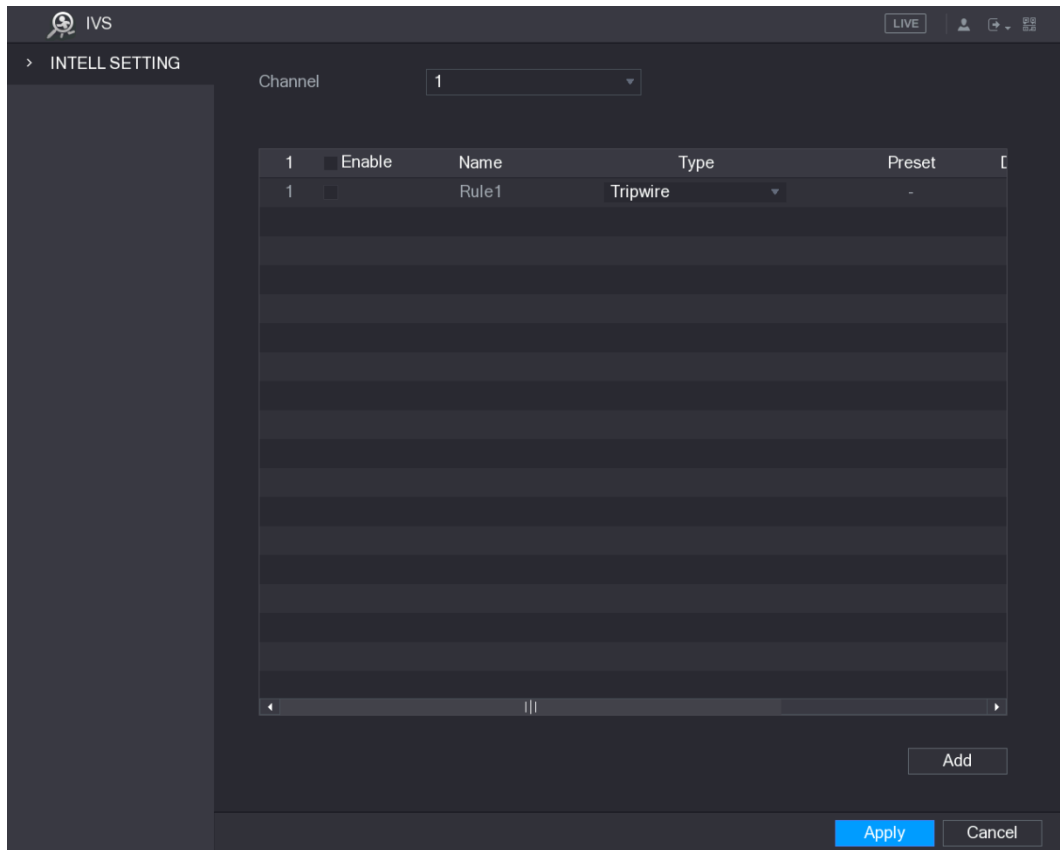

Figure 5-118
Step 1 On the rule line that you added, in the **Type** list, select **Tripwire**. See Figure 5-118.